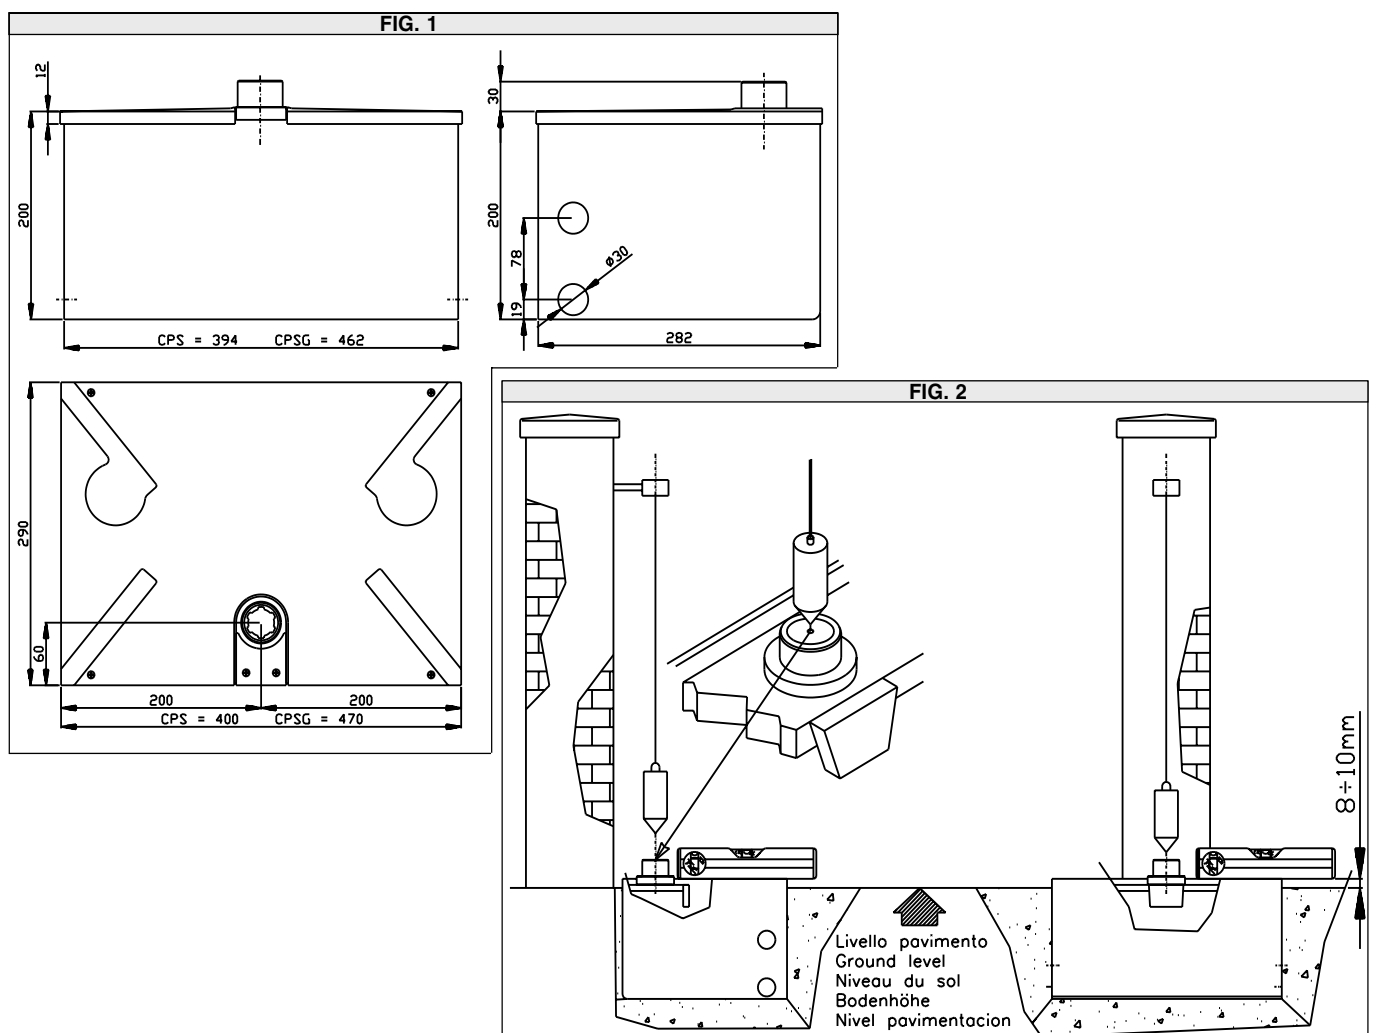

FIG. 3
Make a hole in the ground at the foot of the gatepost which is large enough to house the CPS-CPSG case. Make sure that water is always drained away adequately. Make a concrete base on which the case can rest so that adjustment can be carried out (fig.2). The case should be positioned so that the centre of the bushing is in a perfect line with the hinge of the gate leaf. Check the axis of the gate leaf with a plumb line and both sides of the box with a level (fig.2). Position the drain for the water and the raceways for connections. Fill the hole with concrete as in fig.3.
3.1) Right leaf (seen from the inside - fig.3)
3.2) Left leaf (seen from the inside - fig.3)